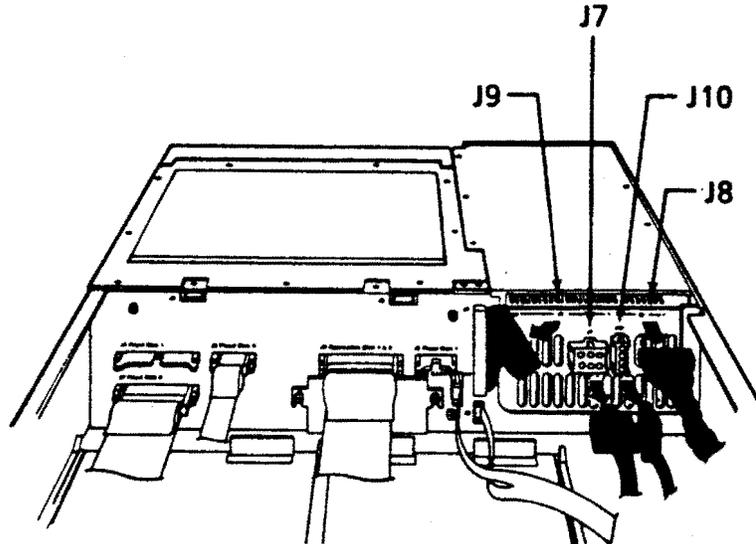

Figure 4-22: Power Supply Cable Removal
9. From the front of the power supply, disconnect (Figure 4-22):
4. On the front of the power supply, reconnect (Figure 4-22):